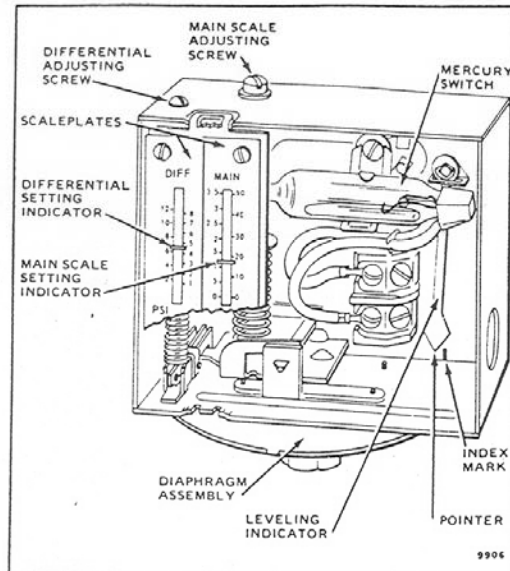

FIG. 9—SETTING A VAPORSTAT CONTROLLER.
A vaporstat controller must be accurately leveled for proper operation. It is level when the leveling indicator (Fig. 9) hangs freely with its pointer directly over the index mark inside on the back of the case. Level the controller by carefully bending the steam trap (siphon loop).
Adjust the *main scale set point* for the desired operating pressure by turning the *main scale adjusting screw* (Fig. 9) on the top of the case until the main scale setting indicator is at the desired value. Adjust the *differential setting* by turning the *differential adjusting screw* (Fig. 9) until the differential setting indicator is at the desired value. The scaleplates are marked in psi and kg/cm2.
2. Turn the main scale adjusting screw (Fig. 9) until the main scale setting indicator on the controller corresponds to the boiler pressure gauge reading.
4. If the controller is operating properly, turn the main scale adjusting screw (Fig. 9) until the main scale setting indicator is at the desired set point.
The controller was carefully calibrated during manufacture and should not require recalibration. Most calibration errors are caused by improper leveling. The controller should be level if the pointer on the leveling indicator is directly over the index mark (Fig. 9). In some cases, the leveling indicator may not be accurate enough. The pointer may be over the index mark, but the controller still may not be operating within the tolerance of its scale setting. In this case, carefully bend the steam trap